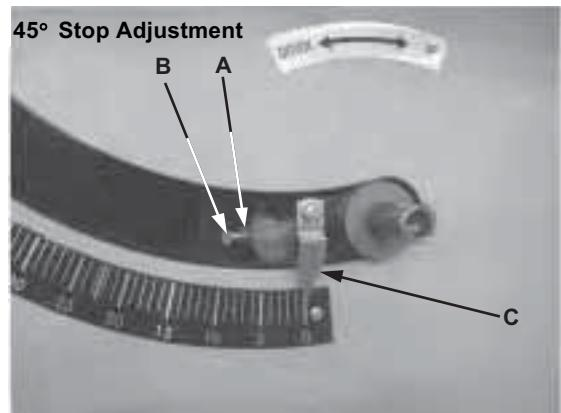

Figure 19
4. Place a combination square on the table against the blade and check to see that the blade is at a 90° angle to the table, Figure 19. Make sure square is not touching a blade tooth.